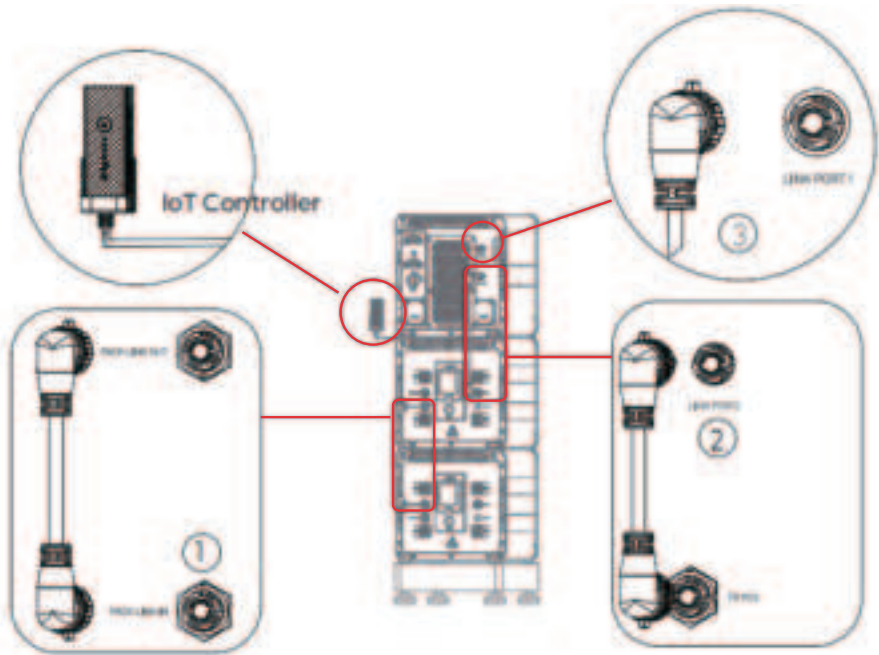

Fig. 7-3
- Step 1:** To achieve communication between two B500 battery packs, a communication cable is required. Plug one end of the cable to the B500's PACK LINK IN port, and the other to the upper B500's PACK LINK OUT port. See Fig. 7-3 ①.
- Step 2:** For communication between the EP900 inverter and B500 battery packs, plug one end of the communication cable to the top B500's inverter signal port (TO PCS), and the other to the LINK PORT 2 of the EP900 inverter. See Fig. 7-3 ②.
- Step 3:** Connect the IoT controller to the LINK PORT 1 of the EP900 inverter. See Fig. 7-3 ③.